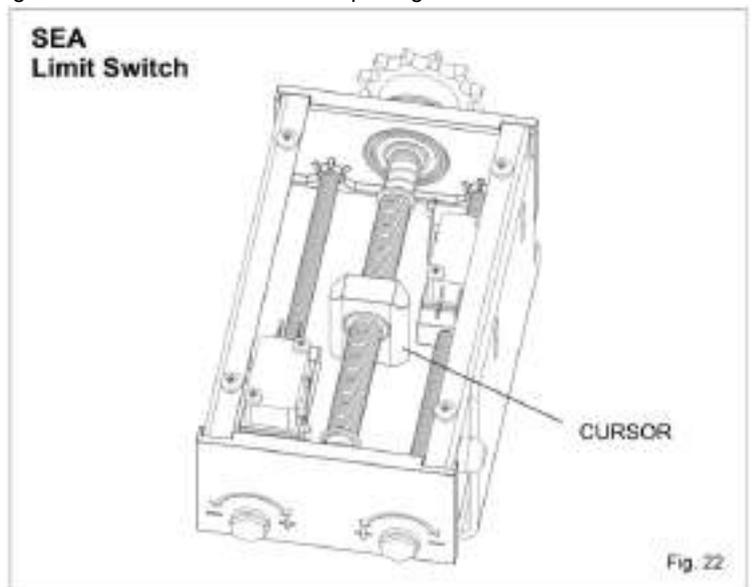

Fig. 22
6.1. Before acting on the limit switch, make sure that during the assembling of the motor reducer complete of chain at the gate, the limit switch cursor must be in the central position of its run (fig. 22) and the gate must be in the middle of its opening.